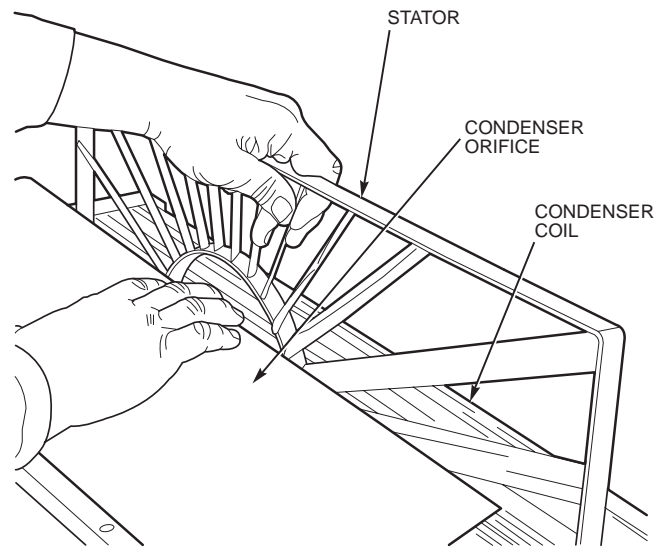

FIGURE 20 — REMOVING STATOR
■ **TO REMOVE THE STATOR** — After pulling the top of the condenser orifice away from the condenser coil, grasp the top of the stator and slide it up and out of the stator track. See Figure 20.